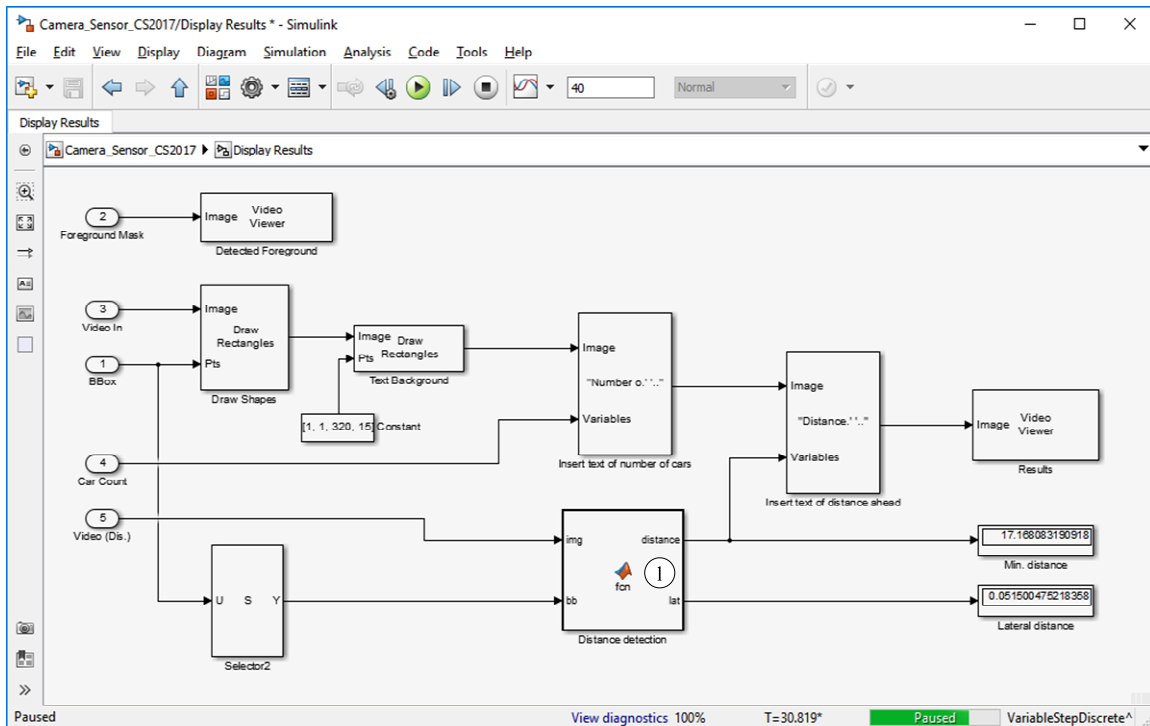

Figure 17. Display result block
5. The detected rectangles information and video signals go in to the **Display Result** block ⁽⁴⁾. The inside of this block is shown in Figure 17.